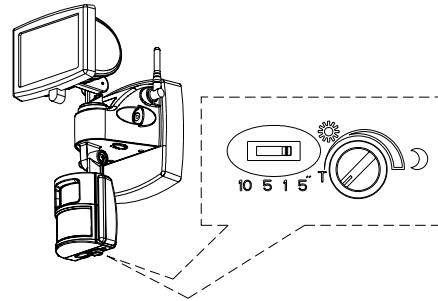

FIGURE 17
- Turn the LUX control to the T position and the TIME adjustment slide switch to 5 second. (FIGURE 17)